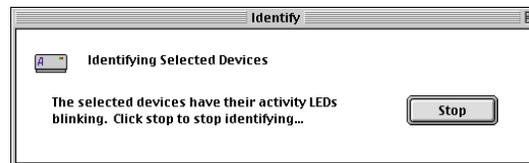

Figure 26 Identify Window
4. Select Option > Identify. The Identify window opens (see Figure 26).